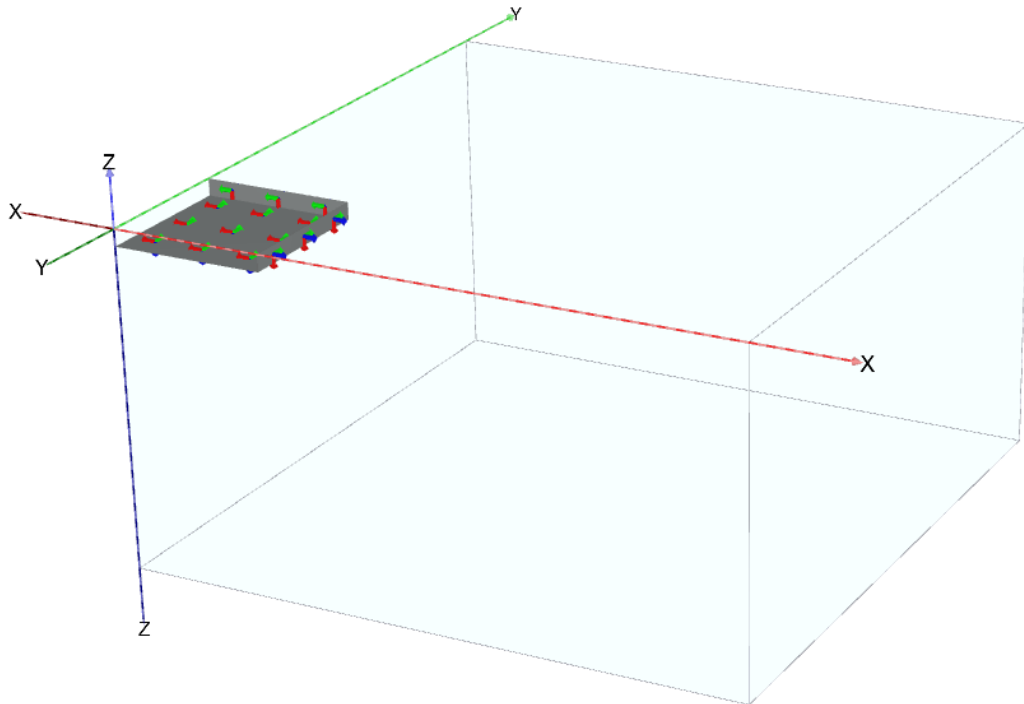

Figure 21: Location of plates in the project
7. Delete the two vertical surfaces at the model boundaries. Subsequently, assign plates to the two vertical basement surfaces inside the model. Figure 21 (on page 30) shows a view of the basement and wall plates.
Note: To visualize the local axes displayed in Figure 21 (on page 30) in the menu bar select **Options > Show local axes > Show local axes on surfaces with structures**.